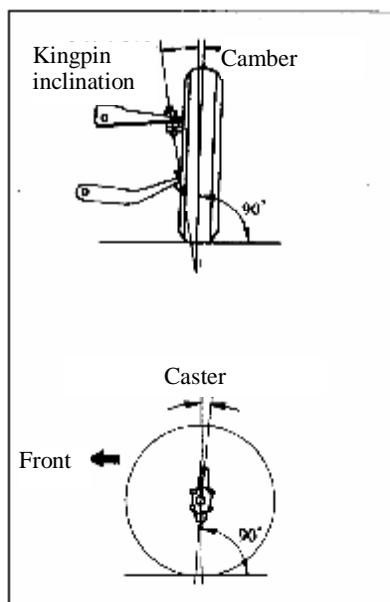

Figure 10-5-5 Front Wheel Alignment
- B. Check camber, caster and kingpin inclination of wheel as indicated in figure 10-5-5.